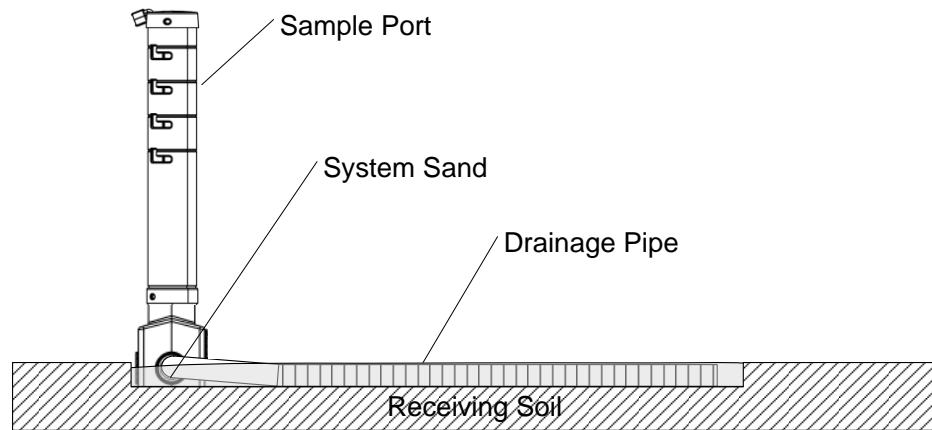

Fig. 52
- Add a 100-mm layer of system sand around the base unit of the sample port, the return pipe and the drainage pipe. See Fig. 52.